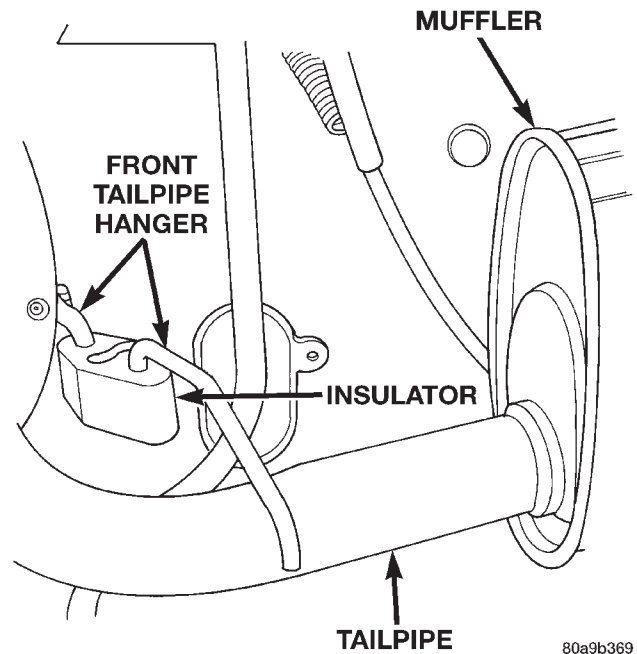

Fig. 5 Front Exhaust Tailpipe Hanger
(1) Raise and support the vehicle.
(2) Disconnect front tailpipe hanger from the insulator (Fig. 5).
- (1) Install the muffler onto the catalytic converter. Install the clamp and tighten the nut finger tight.
- (2) Install the exhaust tailpipe into the rear of the muffler.
- (3) Install the exhaust tailpipe/muffler assembly on the rear exhaust tailpipe mounting bracket. Make sure that the exhaust tailpipe has sufficient clearance from the floor pan.
- (4) Install front tailpipe hanger into the insulator (Fig. 5).